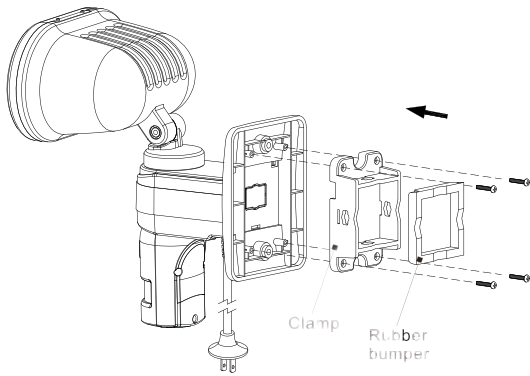

FIGURE 41
- (1) Place the clamp to the mounting bracket by securing with four screws provided. Put the rubber bumper around the square protrusion of clamp. (FIGURE 41)